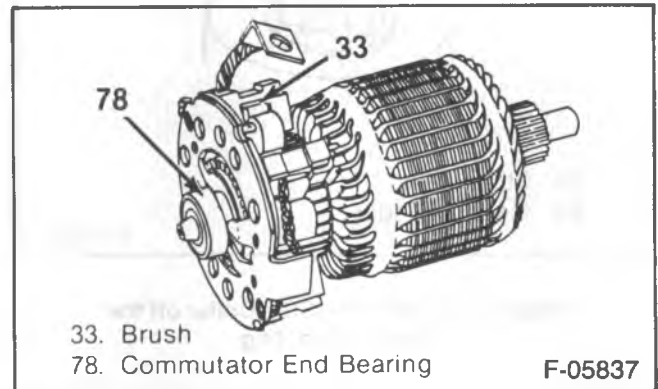

Figure 4—Armature Assembly
4. Field frame with armature and shield (77) from the drive end.
5. Armature (9) from the field frame (41).
6. Commutator end bearing (78) from the armature shaft with J 28509-A or equivalent.
- Lift the brushes so each spring rests against the brush to prevent brush damage during brush assembly removal (figure 4).
8. Gear and drive from the drive housing assembly (82).
9. Thrust collar (81) from the drive shaft.